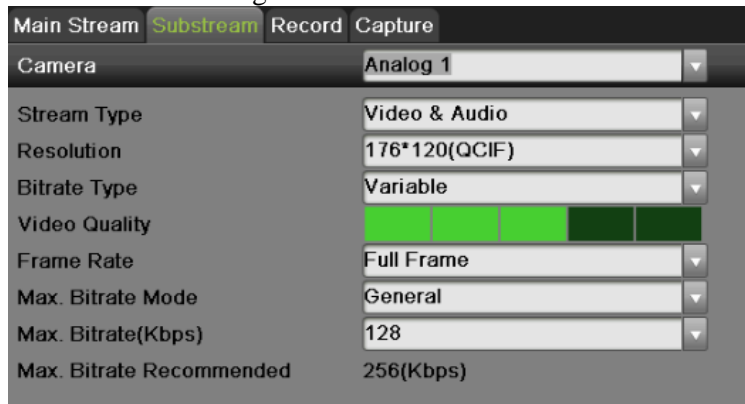

Figure 45 Substream Settings Menu
3. Select Substream tab, as shown in Figure 45, to configure the parameters of sub stream. The steps are the same as main stream configuration.